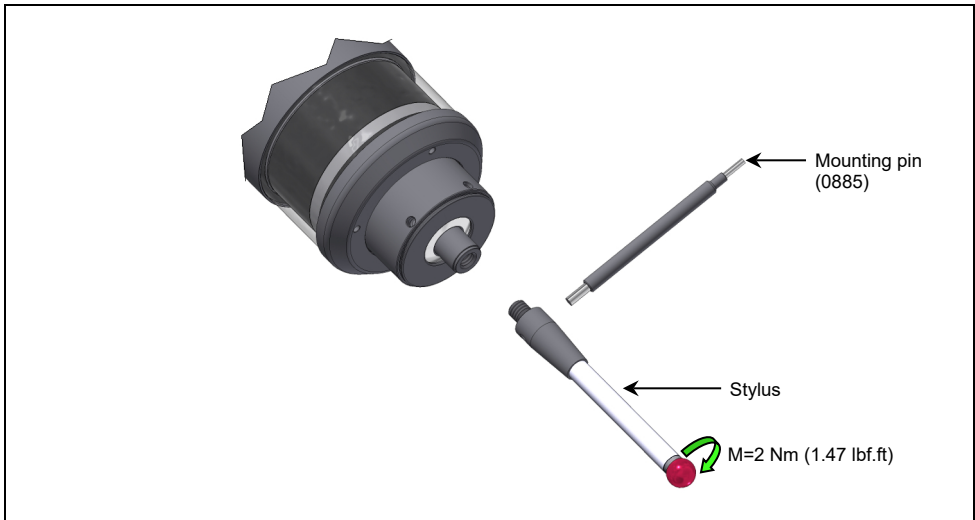

Fig. 7 Stylus change with measuring unit PP41.00/HPP41.10 (using PP41.00 as an example)
2. Carefully screw the new stylus with mounting pin into the touch probe (Fig. 7).